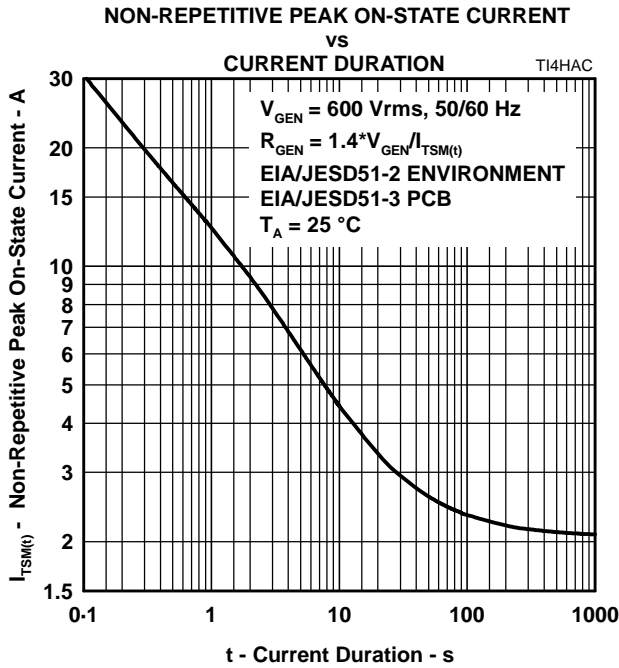

Figure 8.
5. EIA/JESD51-2 environment and EIA/JESD51-3 PCB with standard footprint dimensions connected with 5 A rated printed wiring track widths. See Figure 8 for the current ratings at other durations. Derate current values at -0.61 \%/°C for ambient temperatures above 25 °C .
The protector can withstand currents applied for times not exceeding those shown in Figure 8. Currents that exceed these times must be terminated or reduced to avoid protector failure. Fuses, PTC (Positive Temperature Coefficient) resistors and fusible resistors are overcurrent protection devices which can be used to reduce the current flow. Protective fuses may range from a few hundred milliamperes to one ampere. In some cases, it may be necessary to add some extra series resistance to prevent the fuse opening during impulse testing. The current versus time characteristic of the overcurrent protector must be below the line shown in Figure 8. In some cases, there may be a further time limit imposed by the test standard (e.g. UL 1459 wiring simulator failure).